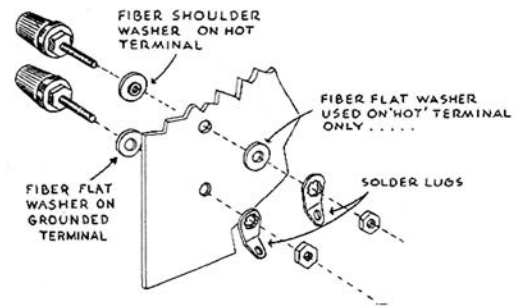

Figure 13
- () 194. Install a binding post base at location CF as shown in Figure 13. The base goes through a fiber shoulder washer, the panel, a flat fiber washer, a solder lug and a 6-32 nut. Make sure the washers are properly seated before tightening the nut.